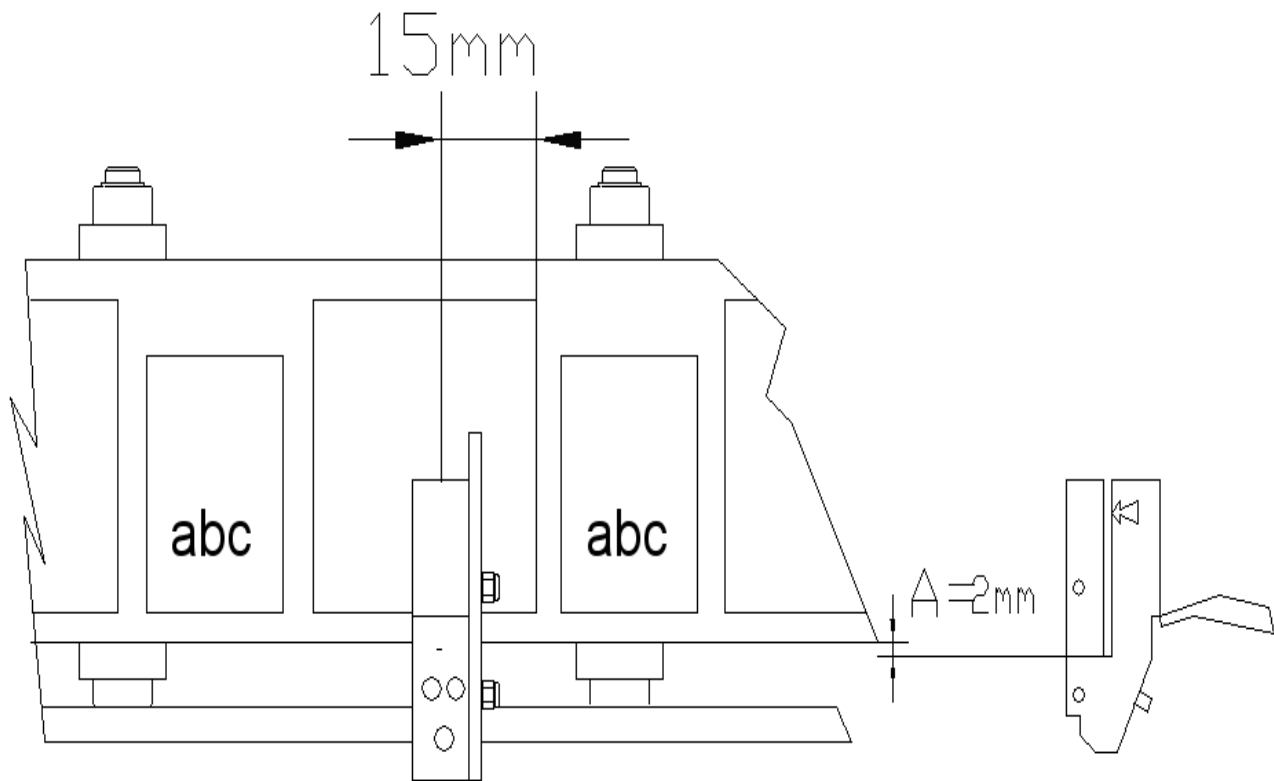

fig.5
- loosen the screws 12 and position the photocell at about 10-15 mm beyond the first space between the labels in the direction of the driving roller (fig.5): this is a rough regulation;